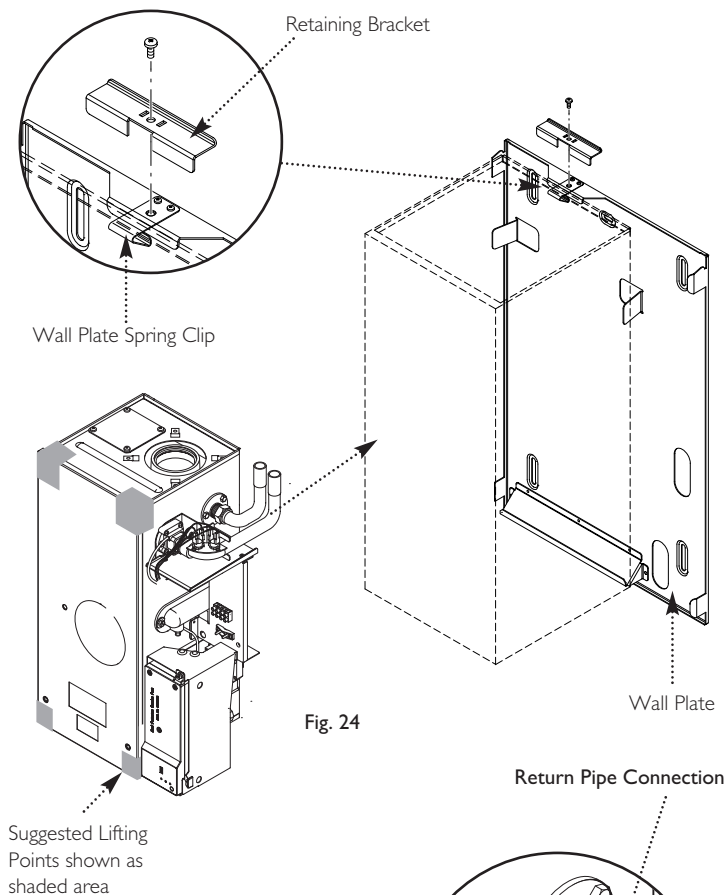

Fig. 24
### 10.3 Fitting The Boiler (Fig. 24)
2. Offer up the boiler to the wall plate using the lifting points shown in Fig. 24 and locate the rear bottom edge onto the self locating support at the base of the wall plate. (See **Safe Manual Handling** page 5.)
**NOTE:** When installing in a Loft/Small Compartment, access for lifting the boiler from the front can be gained for two people using the lifting points. (Fig. 24).